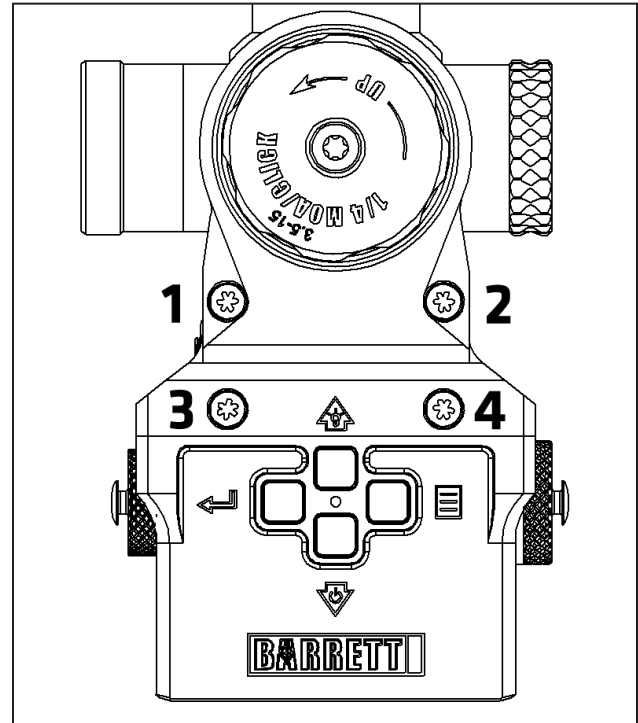
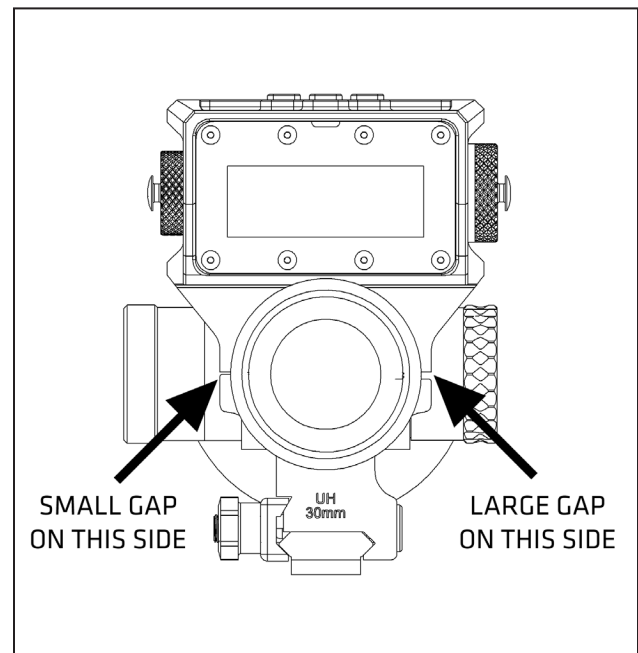

Figure 8.
Figure 9.
8. Ensuring the elevation knob rotates freely, evenly tighten Mount Screws (T-25 Torx®) # 1 and # 2. Figure 8. There should be a gap between BORS and the scope ring bases. Figure 9.
9. Tighten mount screws # 3 and # 4, and torque all four mount screws, in sequence # 1 to # 4, to 35in/lbs or 3.95Nm. Figure 8.